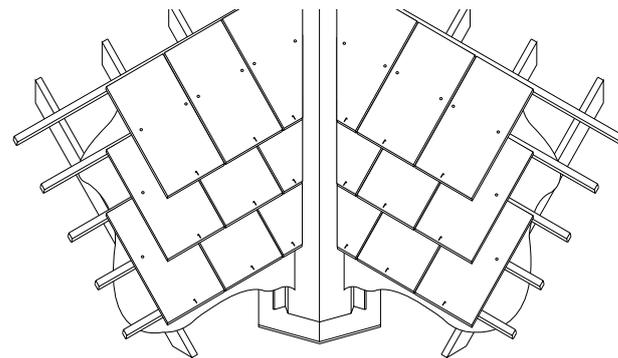

Fig. 19 Open metal valley
- Centre-nail valley slates, positioning rivets before fixing down. Ensure a 50mm overhang from the valley fillet and provide the required clear gutter to maintain an uninterrupted flow of water from the roof (Fig. 19, page 37).